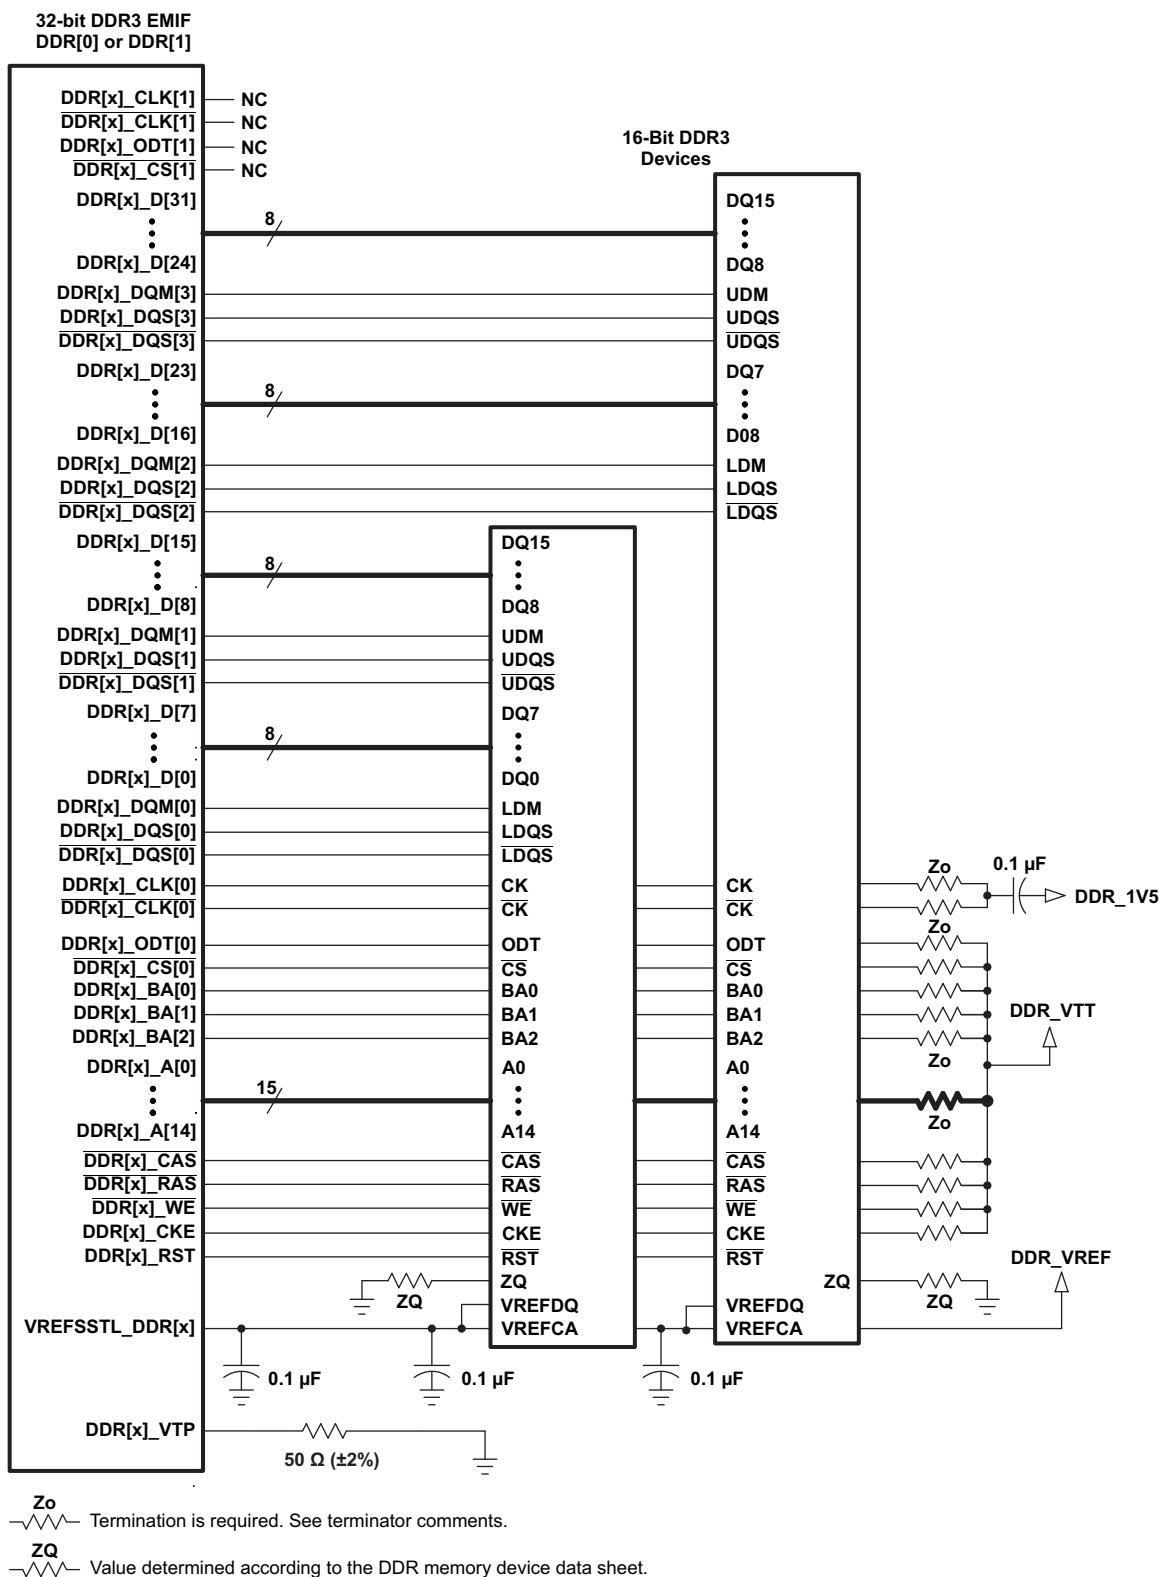
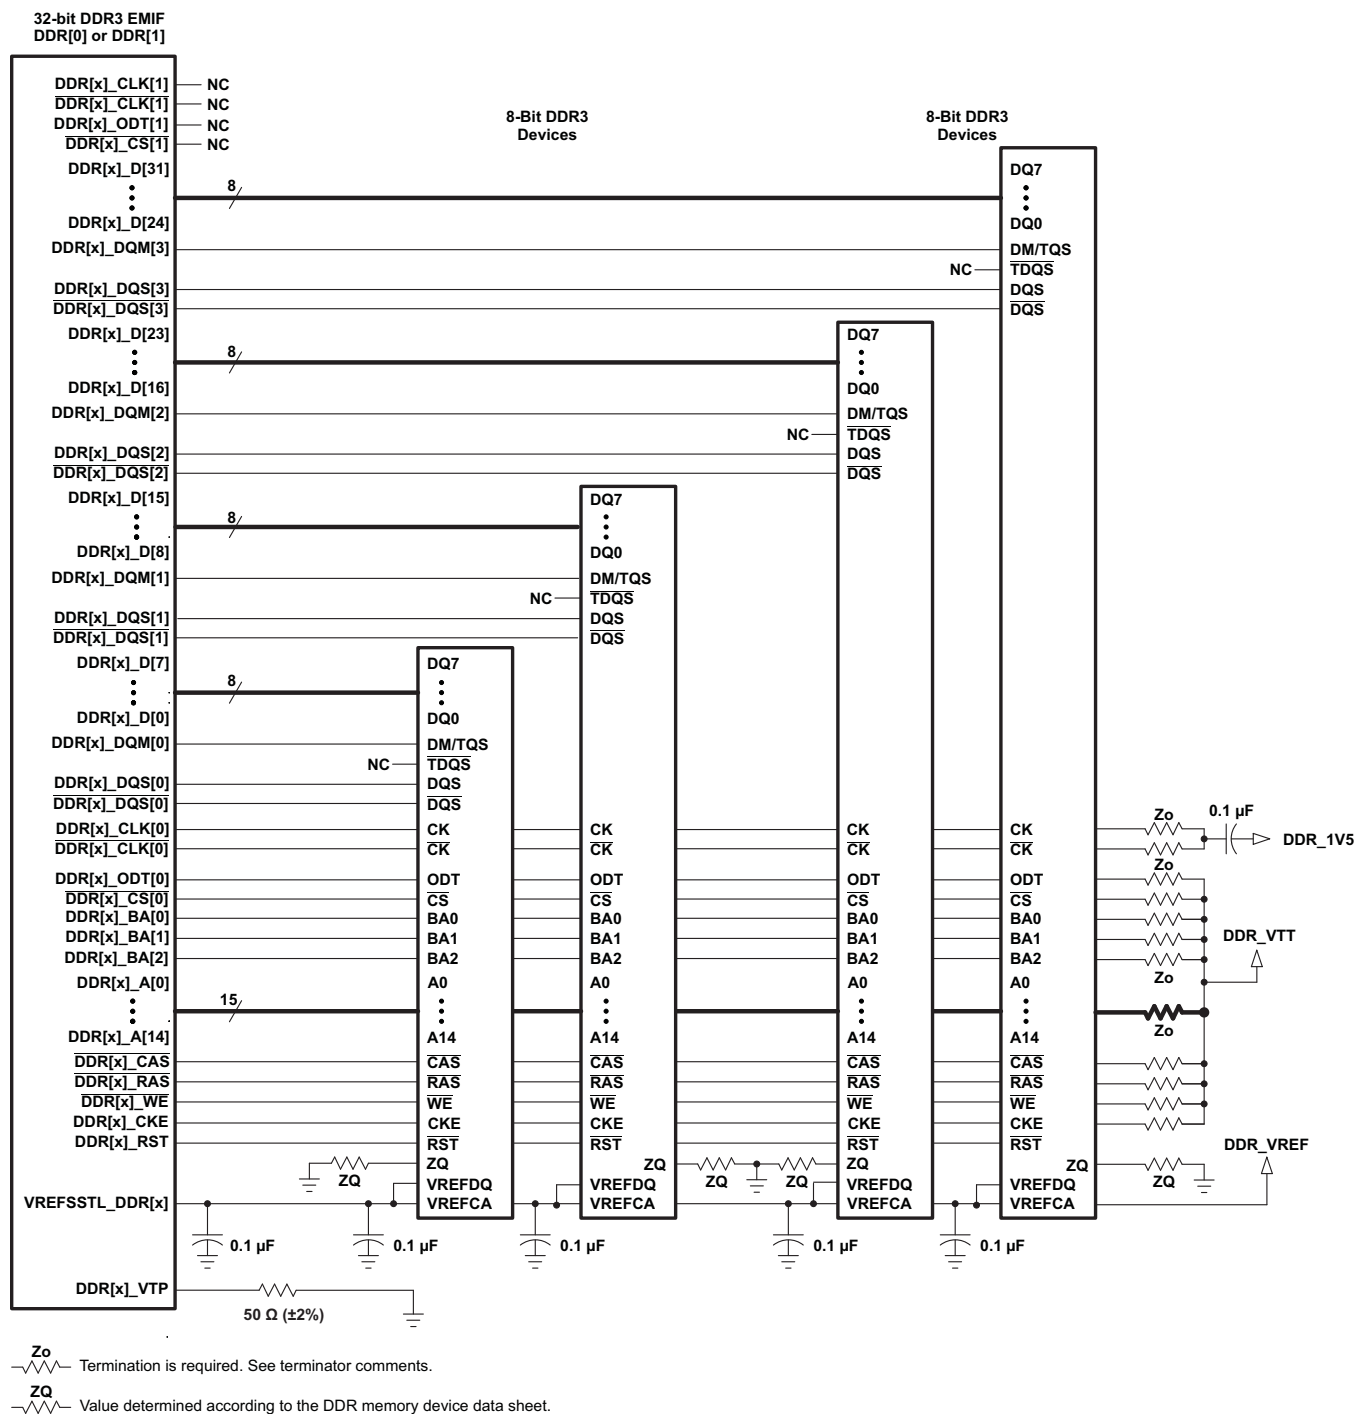

Figure 8-13. 32-Bit, One-Bank DDR3 Interface Schematic Using Two 16-Bit DDR3 Devices
Figure 8-14. 32-Bit, One-Bank DDR3 Interface Schematic Using Four 8-Bit DDR3 Devices
The DDR3 interface schematic varies, depending upon the width of the DDR3 devices used and the width of the bus used (16 or 32 bits). General connectivity is straightforward and very similar. 16-bit DDR devices look like two 8-bit devices. Figure 8-13 and Figure 8-14 show the schematic connections for 32-bit interfaces using x16 devices.
Note that the 16-bit wide interface schematic is practically identical to the 32-bit interface (see Figure 8-13 and Figure 8-14); only the high-word DDR memories are removed and the unused DQS inputs are tied off. The processor DDR[x]_DQS[2] and DDR[x]_DQS[3] pins should be pulled to the DDR supply via 1-kΩ resistors. Similarly, the $\overline{\text{DDR}}[\text{x}]_{\text{DQS}}[2]$ and $\overline{\text{DDR}}[\text{x}]_{\text{DQS}}[3]$ pins should be pulled to ground via 1-kΩ resistors.
(1) DDR3 speed grade depends on desired clock rate. Data rate is 2x the clock rate. For DDR3-1600, the clock rate is 800 MHz.
(2) For valid DDR3 device configurations and device counts, see Section 8.3.2.3, Figure 8-13, and Figure 8-14.